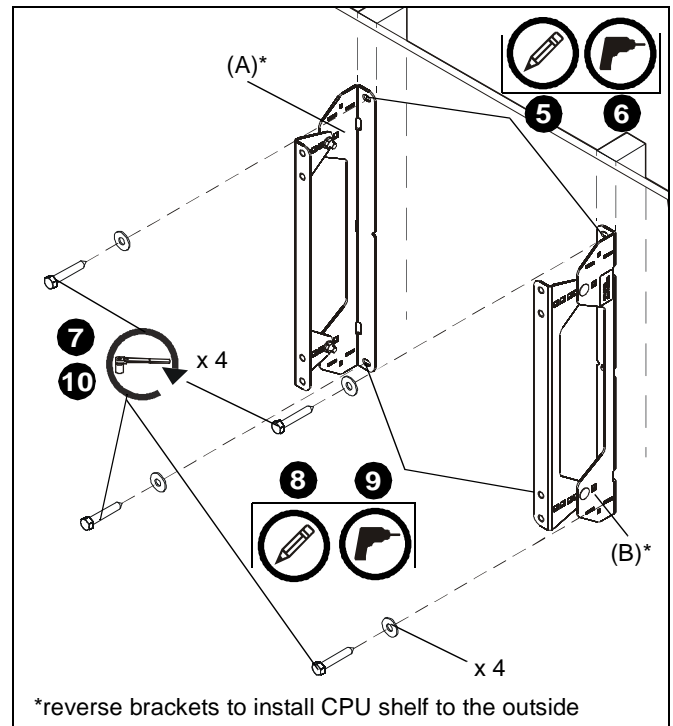

Figure 2
5. Using a level, mark the wall on each stud to attach the brackets through the upper mounting slots. (See Figure 2)
7. Use two 5/16 x 2-1/2" lag bolts and two 5/16" flat washers to attach top of brackets (A and B) to wall. (See Figure 2)
**NOTE:** If desired CPU location is off to the side of the display, reverse brackets (A and B) from how they are shown in Figure 2.
8. Mark the attachment points for the lower mounting slots, making sure the attachment points are located on the studs. (See Figure 2)
9. Drill 7/32" (5.5mm) pilot holes at markings for lower mounting holes. (See Figure 2)
10. Use two 5/16 x 2-1/2" lag bolts and two 5/16" flat washers to attach the mount to the wall through the lower mounting holes. (See Figure 2)